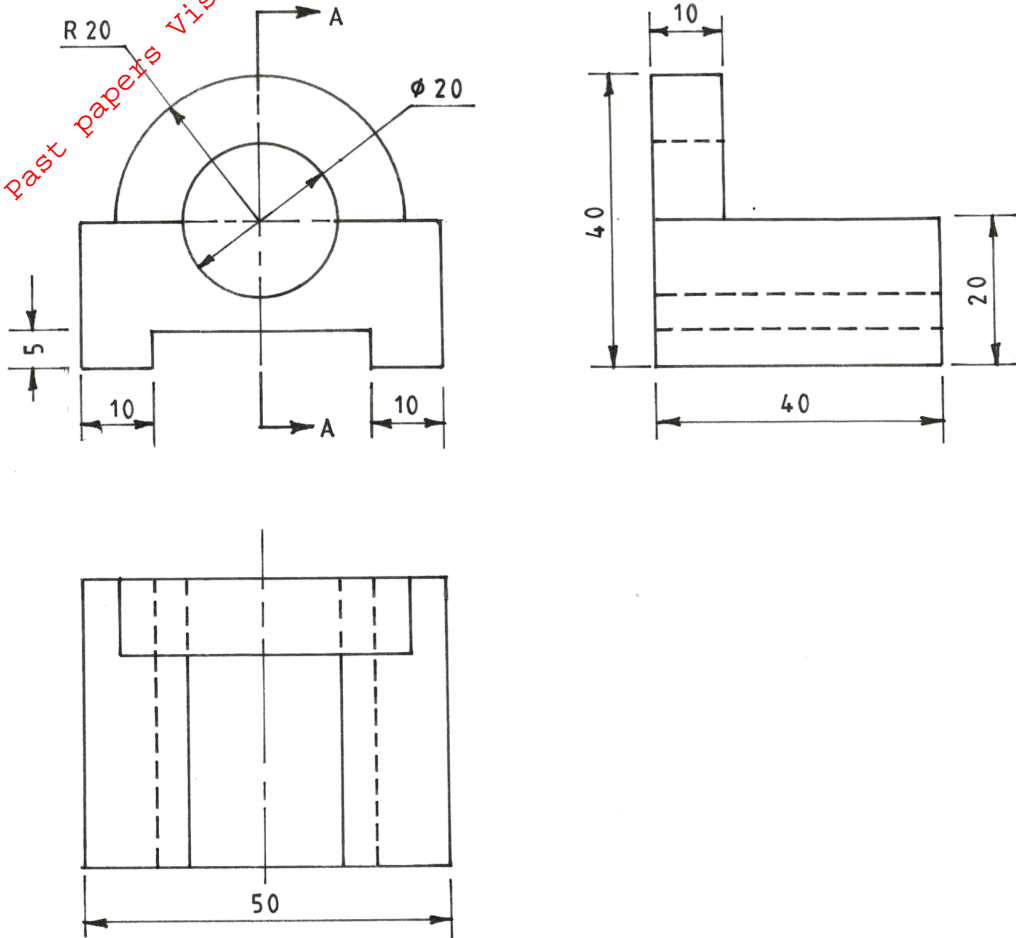

Fig. 1
**11** Figure 1 shows orthographic views of a machined block drawn in first angle projection.